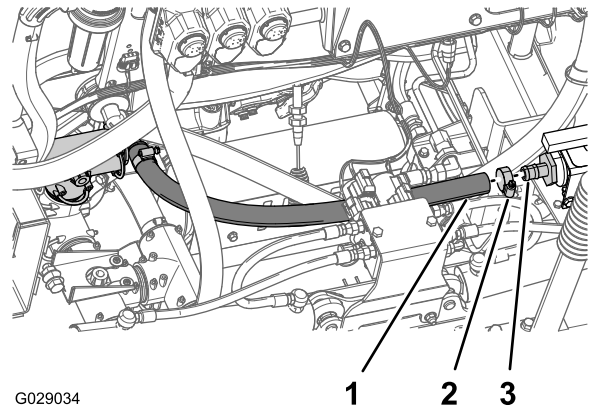

Figure 42
3. Assemble the free end of the transfer hose over the straight-barbed fitting at the inboard side of the ball valve (Figure 42).
4. Secure the hose to the barbed fitting with a hose clamp (Figure 42).